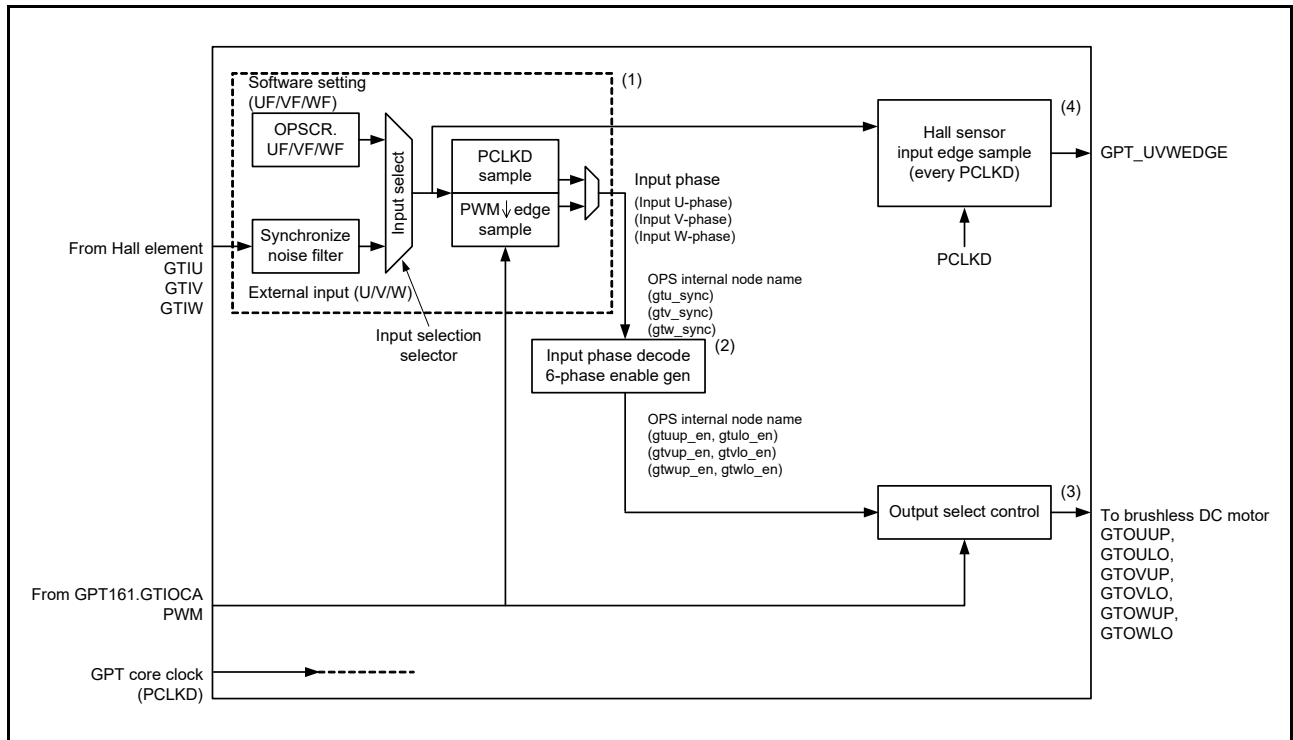

Figure 21.77 Conceptual diagram of GPT_OPS control flow
Figure 21.77 shows the conceptual diagram of GPT_OPS control flow.
In the GPT_OPS control flow conceptual diagram shown in Figure 21.77, (1) is a selection of input phase from the software settings and external input by the OPSCR.FB bit.
In the GPT_OPS control flow conceptual diagram shown in Figure 21.77, (2) enables the 6-phase signals by decoding the input phase selected by the OPSCR.FB bit. The 6-phase enable signal is used for internal processing of GPT_OPS.
In the GPT_OPS control flow conceptual diagram in Figure 21.77, (3) represents the selection of the output waveform by setting the OPSCR register bit.
In the GPT_OPS control flow conceptual diagram shown in Figure 21.77, (4) outputs the Hall sensor input signal edge to the ELC.